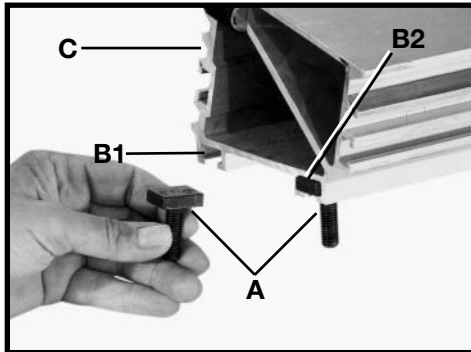

Fig. 28
1. Insert two T-bolts (A) Fig. 28 into channel (B1) located on the left underside of duplicator rail (C).